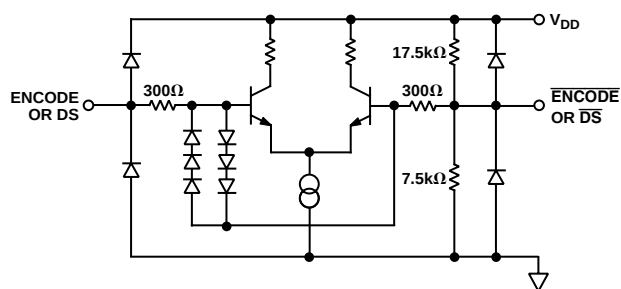

Figure 5. Equivalent ENCODE and Data Select Input Circuit
³t_v and t_{PD} are measured from the threshold crossing of the ENCODE input to valid TTL levels of the digital outputs. The output ac load during test is 5 pF (Refer to equivalent circuits Figures 5 and 6).
ENCODE and Data Select (DS) can be driven differentially or single-ended. For single-ended operation, the complement inputs ($\overline{\text{ENCODE}}$, $\overline{\text{DS}}$) are internally biased to $V_{\text{DD}}/3$ (~1.5 V) by a high impedance on-chip resistor divider (Figure 5), but they may be externally driven to establish an alternate threshold if desired. A 0.1 μF decoupling capacitor to ground is sufficient to maintain a threshold appropriate for TTL or CMOS logic.
Note the 6-diode clock input protection circuitry in Figure 5. This limits the differential input voltage to $\sim \pm 2.1$ V. When the diodes turn on, current is limited by the $300\ \Omega$ series resistor. Exceeding 2.1 V across the differential inputs will have no impact on the performance of the converter, but be aware of the clock signal distortion that may be produced by the nonlinear impedance at the converter.